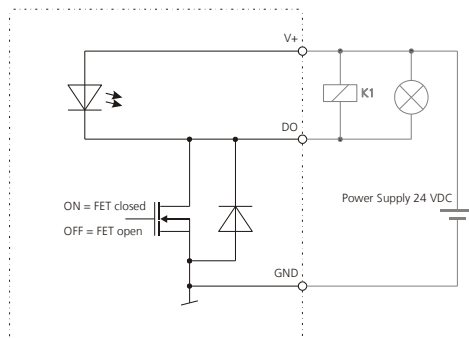

Fig. 20: Open drain output with external load
The DLS-C(H)/FLS-C(H) contain two digital outputs for level monitoring (DO 1 and DO 2) and one digital output for error signalization (DO E). These outputs are open drain outputs as shown in figure 20 and can drive up to **200mA**. Maximum switching voltage is 30V DC. In the ON state, the FET transistor is electro conductive.